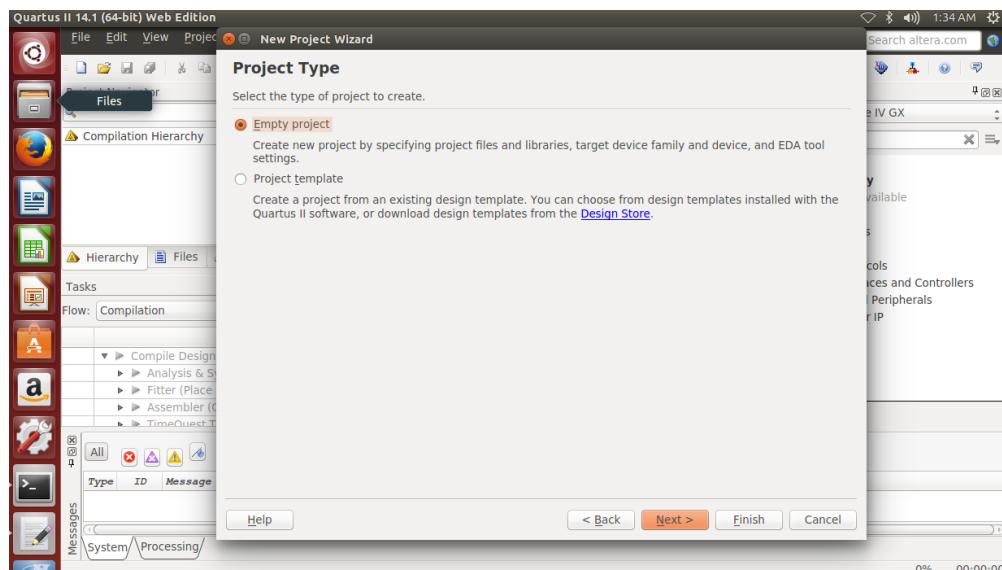

fig 3.1.3
4. Select the type of project as empty. See fig 3.1.3